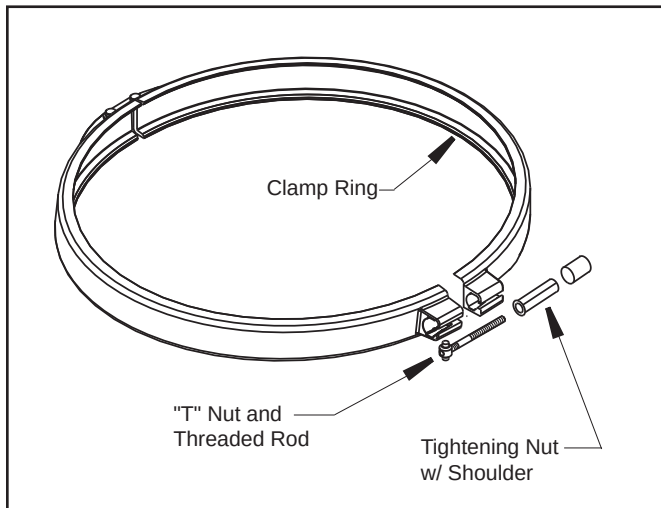

Figure 7. Filter Clamp Ring
3. Place the "T" nut and threaded rod assembly into the clamp. Be sure the "T" nut is seated in the clamp in the proper orientation (See Fig. 7).
4. Use a 9/16" socket on the tightening nut until the clamp ring halves touch each other, or are within 1/16" (See Fig. 7) **but do not overtighten as the clamp can break**. If unable to tighten as indicated, do not operate the filter and **call a service technician immediately**.
3. Check that the tank clamp is correctly seated and tight (See Figs. 7 and 8).